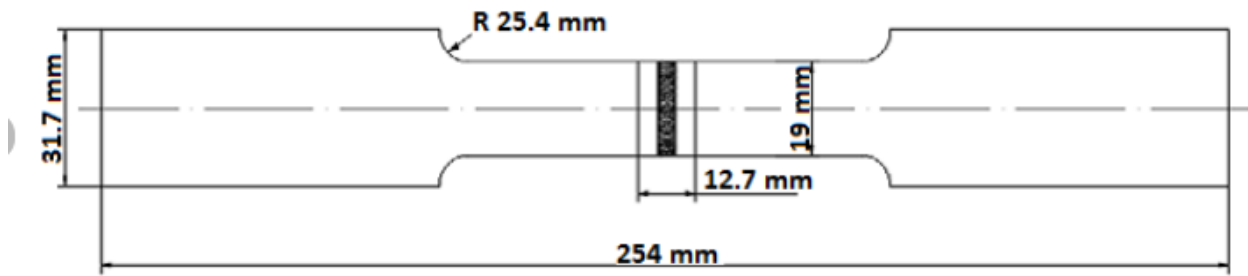

fig.6.1: Tension test specimen preparation
7. By joining the two broken halves of the specimen together, measure the final length and diameter of specimen as shown in fig.6.1.